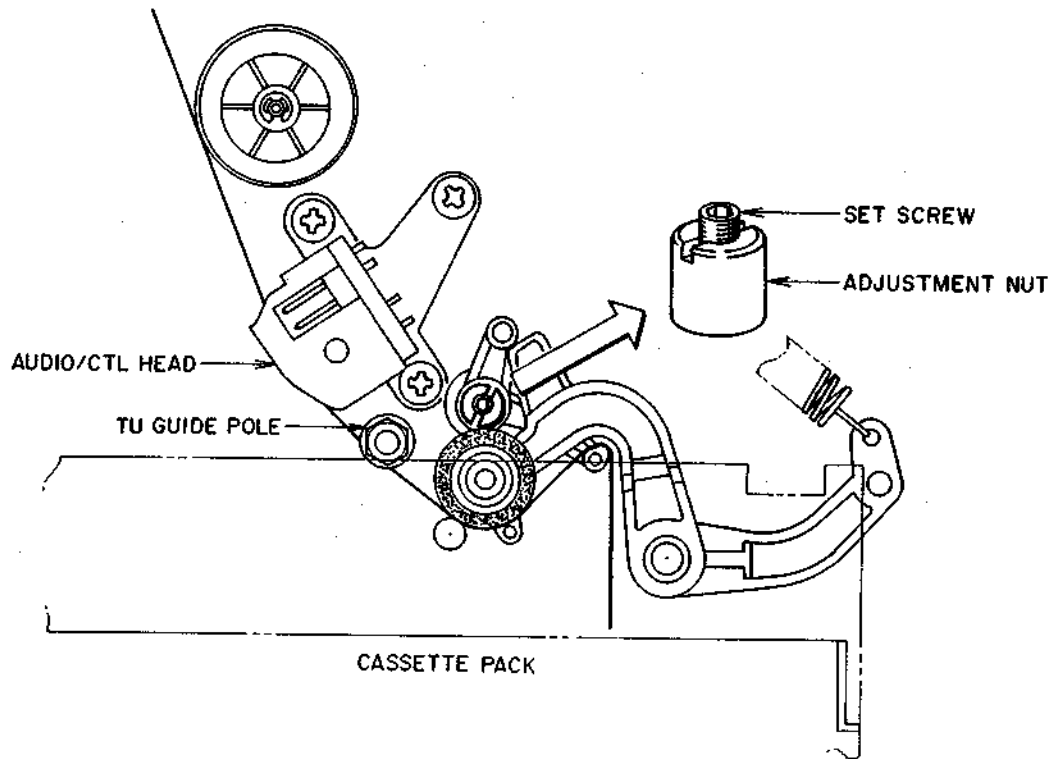

Fig. 123
- 3) Loosen the set screw in Fig. 123 so that the adjustment nut can be turned.